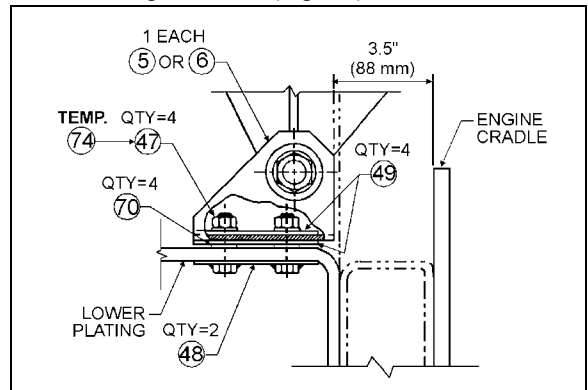

FIGURE 18: ANGLE SUPPORT 05014
1. Install both attachment assembly plates (P/N 051779) (48, Fig. 18) through lower plating and secure with four spring nuts (P/N 500666), (70, Fig. 18). Then install one spacer (P/N 050705), (49, Fig. 18) on each spring nut at both anchoring locations (Fig. 18).
2. Center seat assembly in the fan shroud using the horizontal displacement of the fan driving mechanism support. Center with the slots in the floor at anchoring angle support (on some vehicles only). Vertical displacement of the fan clutch is made possible by slots at the base of the fan clutch (on some vehicles only) or by shimming with additional spacers at anchoring locations. Temporarily secure assembly with two nuts (P/N 500709), (74, Fig. 18) at both anchoring locations.
5. Check alignments again (steps 3, 4 & 5) then replace temporary anchoring nuts (P/N 500709) (74, Fig. 18) with four nuts (P/N 500714) (47, Fig. 18) and wrench tighten.